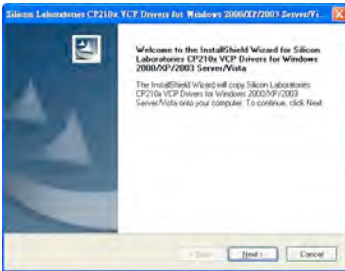

Fig.8
- (10) Choose "Hardware" option and click "Device Manager" button, click "+" symbol on the left side of Ports(COM &LPT), if the device "CP2101 USB to UART Bridge Controller(COMx)" is in the list, the connector is ready to work.(see Fig.8)